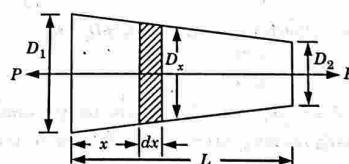

Fig. 1.20.1
Given : Bar subjected to load as shown in Fig. 1.20.1, Diameter of bar, $d = 200$ mm, $E = 200$ GPa.
- A bar uniformly tapering from a diameter D_1 at one end to a diameter D_2 at the other and is shown in Fig. 1.20.1.